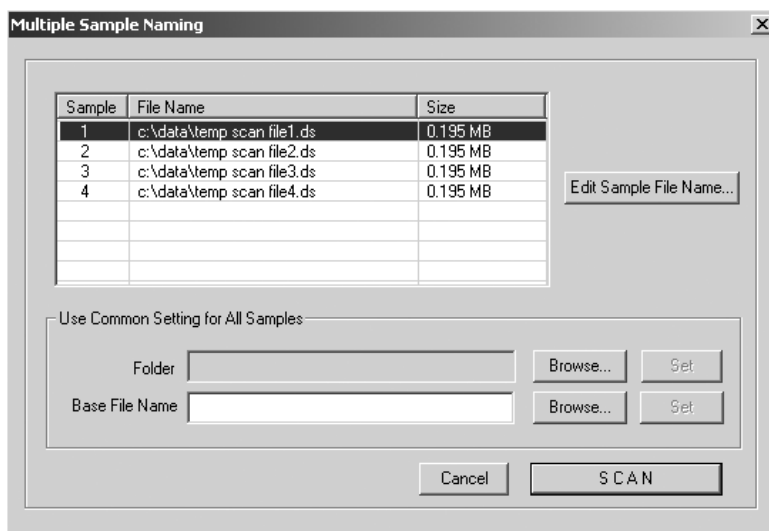

Fig 12-6. The Multiple Sample Naming window.
- 2 In the Scanner Control window, click the Scan button. The Multiple Sample Naming window appears (fig 12-6). Default file names appear for each sample.
- 3 In the Scanner Control window, click the **Scan** button. The Multiple Sample Naming window appears (fig 12-6). Default file names appear for each sample.